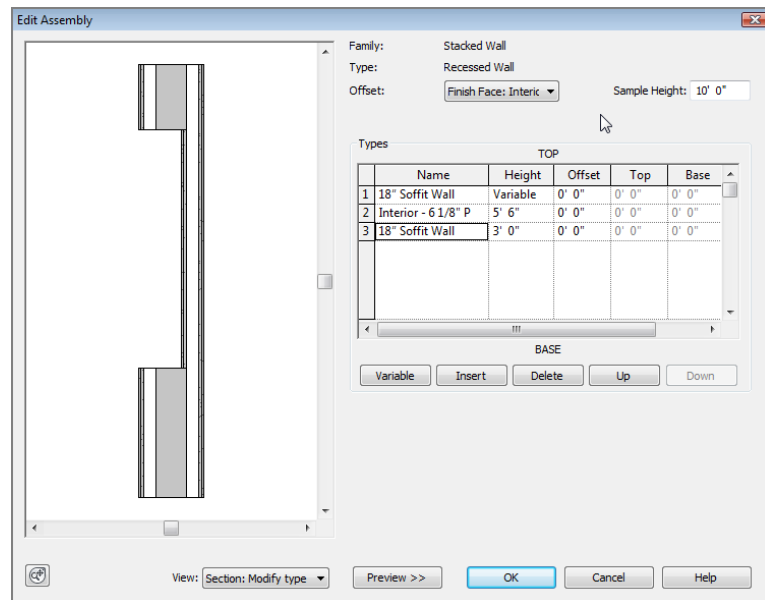

FIGURE 16.23: Creating the stacked wall
14. At the top of the dialog box, change Sample Height to 10'-0" (3000mm) (see Figure 16.23).